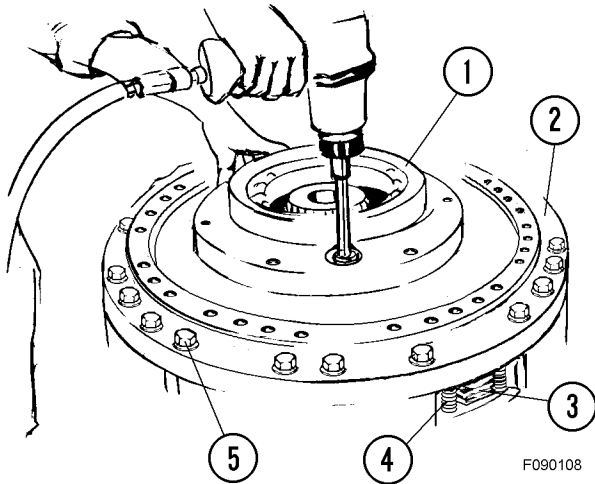

FIGURE 9-17. NUMBER FOUR RING GEAR REMOVAL
33. Remove clutch discs & plates (5), springs (4) and guide pins (3).
34. Use the hole in bearing cage (1, Figure 9-17) to access the cover mounting cap screws. Remove the cap screws, the bearing cage and the cover.
35. Remove tie bolts (5) and housing (2).